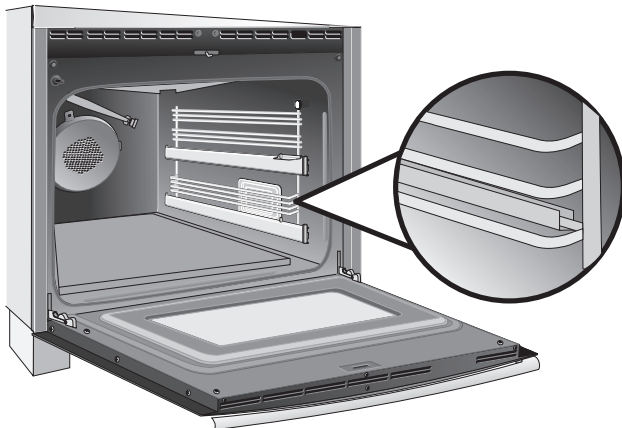

Figure 18: Ladder rack supports
2. Place the ladder racks into the support brackets located on the oven sides (see Figure 18).